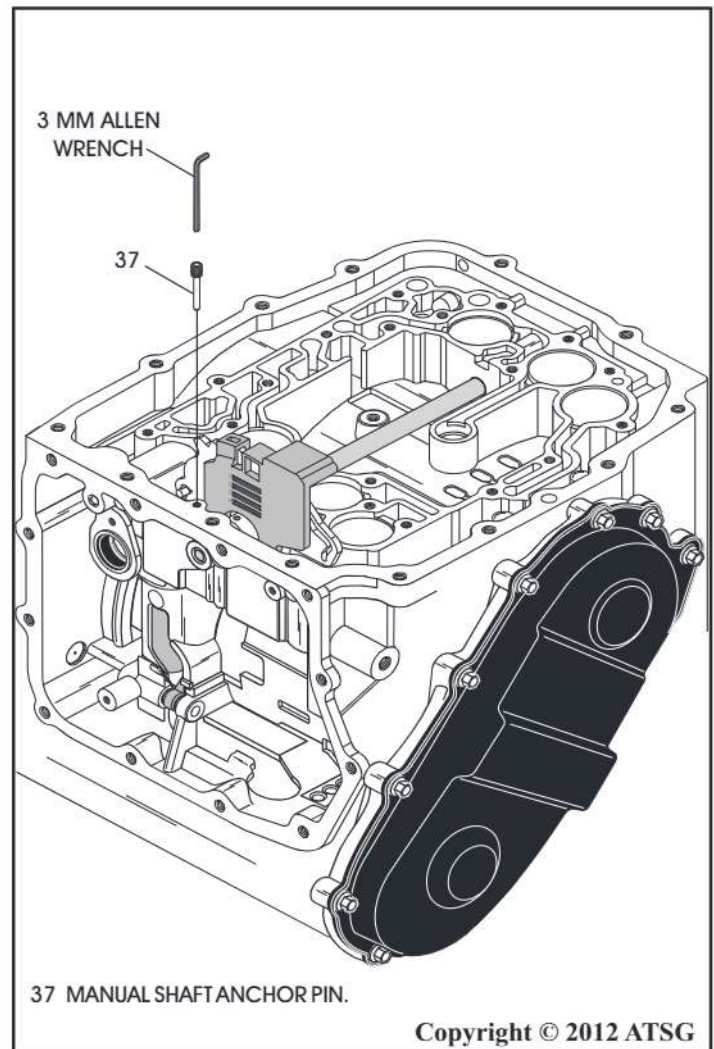

Figure 271
75. Install the manual shaft anchor pin into the case, as shown in Figure 271, using a 3mm allen wrench, and tighten carefully.